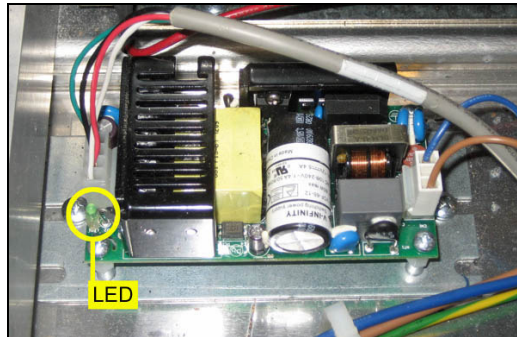

Fig. 1
1. Check the power supply to see if the LED is lit (Fig. 1).